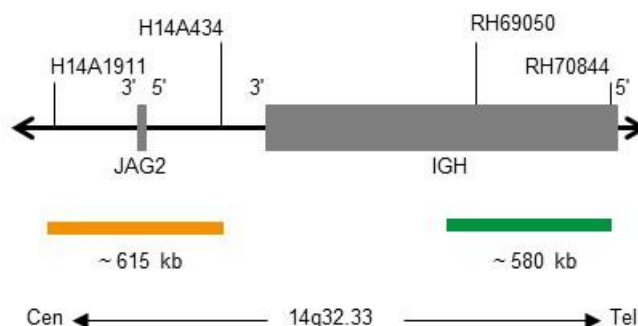

Fig. 1: SPEC IGH Probe map (not to scale)
- ZyGreen (excitation 503 nm/emission 528 nm) labeled polynucleotides (~10.0 ng/μl), which target sequences mapping in 14q32.33* (chr14:106,690,778-107,268,412) distal to the IGH breakpoint region (see Fig. 1).
- ZyOrange (excitation 547 nm/emission 572 nm) labeled polynucleotides (~4.5 ng/μl), which target sequences mapping in 14q32.33* (chr14:105,296,741-105,909,611) proximal to the IGH breakpoint region (see Fig. 1).